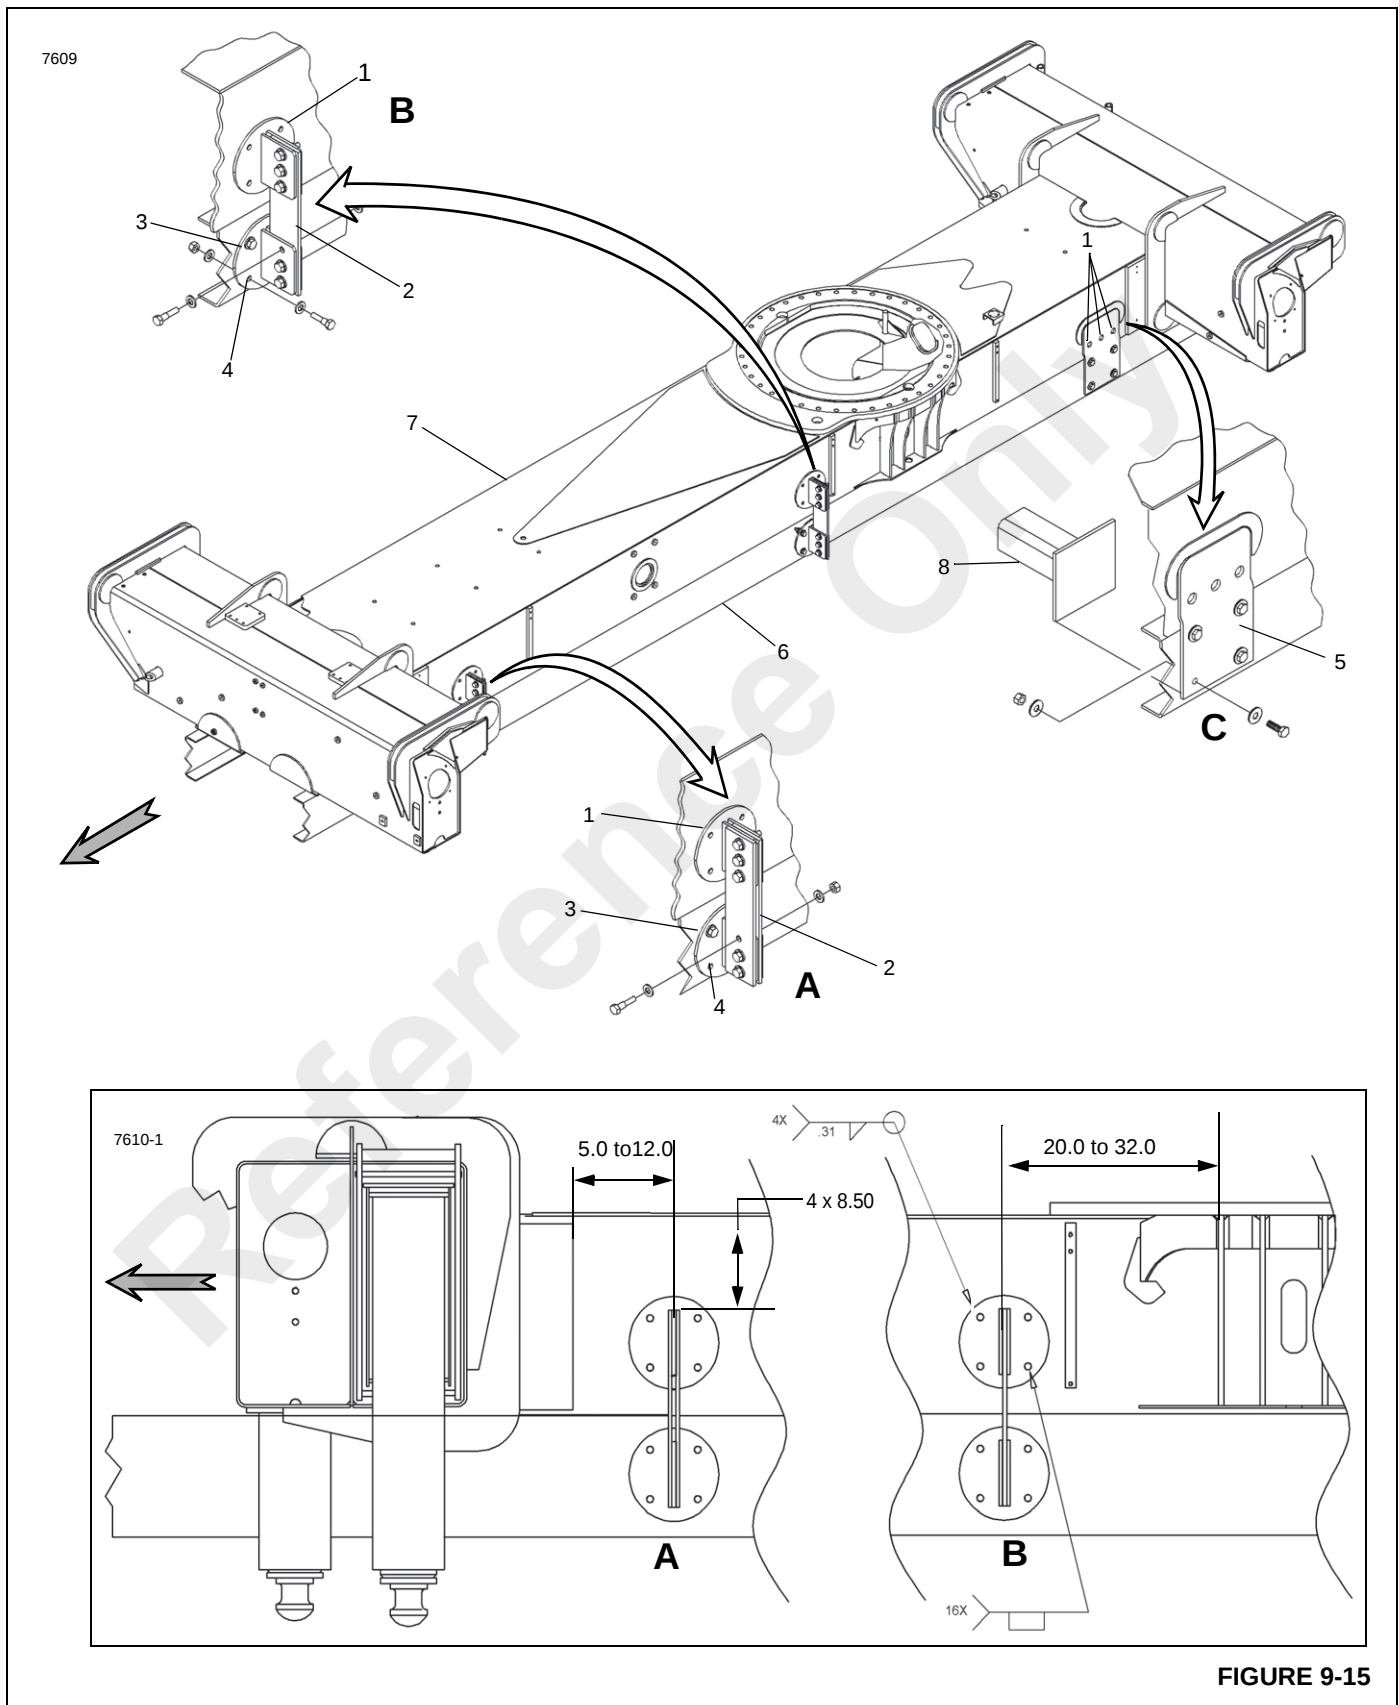

FIGURE 9-15
2. Locate and weld four upper mounting plates (1, Figure 9-15) on the T-box frame (7) per detail A and B, Figure 9-15.
4. Bolt four lower mounting plates (3, Figure 9-15) to anchor bars (2) finger tight.
5. Align and position each lower mounting plate (3, Figure 9-15) directly below the upper mounting plates (1).
Drill four 5/8 holes through the truck frame. Use existing holes (4, Figure 9-15) in the lower mounting plate (3) to locate holes in the truck frame (6).
- Use crane rear marker wiring harness (not shown in Figure 9-15) to connect to the truck rear lights. Connect wire 1403 to truck light harness, connect wire 28 to truck reverse lights for back up alarm, connect wire 51 to truck ground.